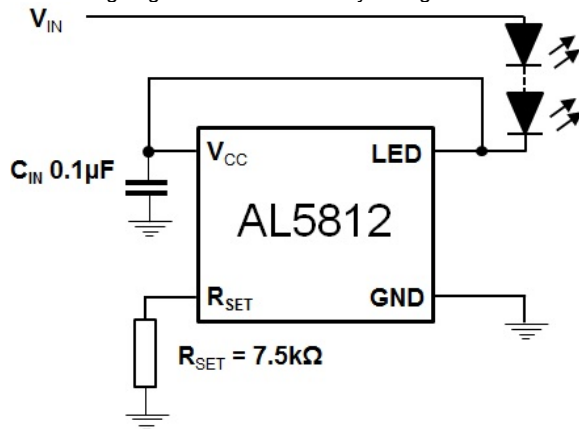
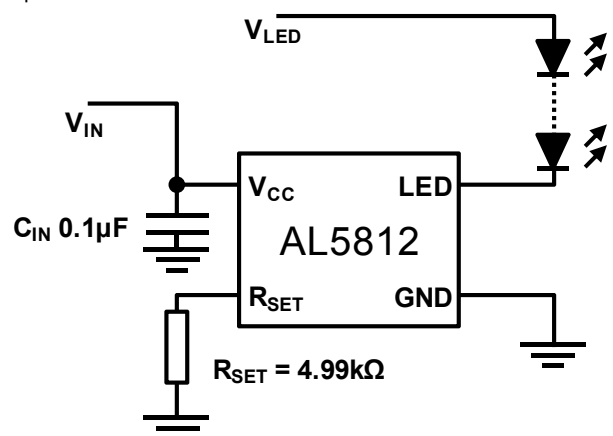
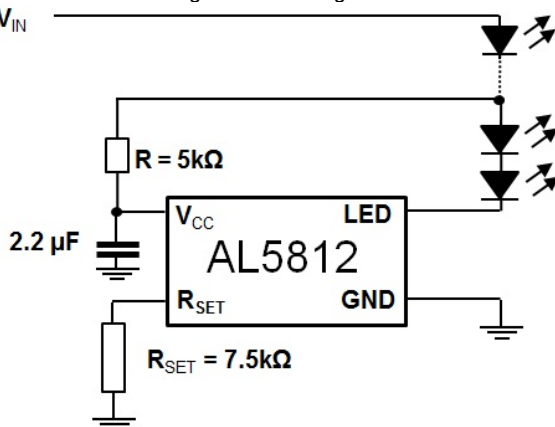
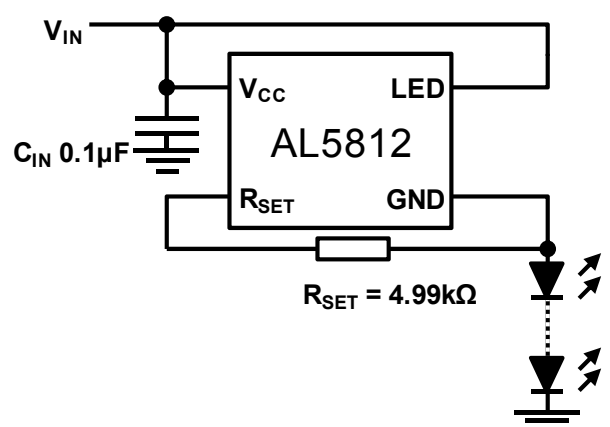

Figure 13 Low Side Current LED Setting
Figure 14 Low Side Drive – Separate Supplies
Figure 15 Low Side LED String Tapping
Figure 16 High Side Current LED String
13. The AL5812 has its  $V_{CC}$  pin connected to its LED pin, which are connected to the positive input supply voltage.  $R_{SET}$  is connected to AL5812 GND pin, which is connected to the anode of the LED chain. This creates a high side driver of the LED chain. See Figure 15.
The AL5812 is a Linear LED driver and in normal operation has the LEDs connected to the same potential as its  $V_{CC}$  pin and regulates the LED current by sinking current into to its LED pin see Figure 13.
The AL5812 with its 60V capability on its supply pin,  $V_{CC}$ , and its LED drive pin allows it to operate from supply rails up to 60V and/or directly drive LED chains up to 60V as shown in Figures 13 and 14. The voltage applied to the  $V_{CC}$  pin can be greater or lower than the voltage applied to the LED string. Figure 14 shows where you might control it from a 5-V rail but power the rails from a 12V rail.
An extension of Figure 14 is to derive the power for the AL5812 from the LED chain itself see Figure 15. LED chains greater than 60V can be driven in this manner as long PWM dimming is not utilized.
Figure 15 shows the use of RC delay to match the power time delay between  $V_{cc}$  and LED pin. The AL5812 can also be used on the high side of the LEDs, see Figure 16. This is a simple way of extending the maximum LED chain voltage, however, it does increase the minimum system input voltage to: